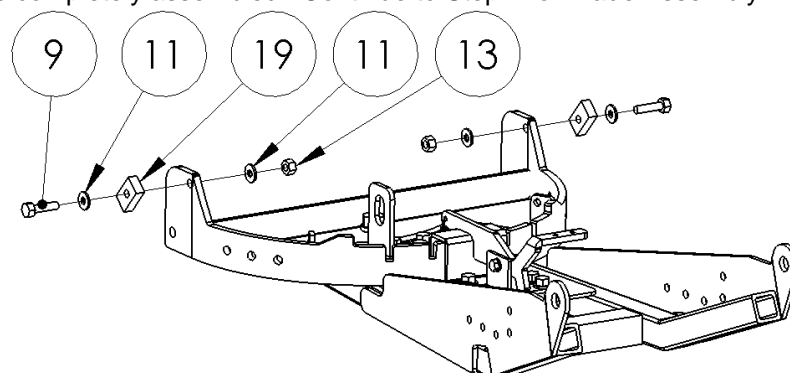

Figure 8
- 6) Install the blade Stop Blocks (#19) using the $\frac{3}{8}$ " Bolts (#9), Washers (#11), and Nylock Nuts (#13) included in your kit **(Figure 8)**. There are four different positions of the stop block that can be used depending on the angle you want your blade to rest at. Rotate the stop block to achieve the desired position. At this point your Plow Push Tubes are completely assembled. Continue to Step 7 for Blade Assembly.